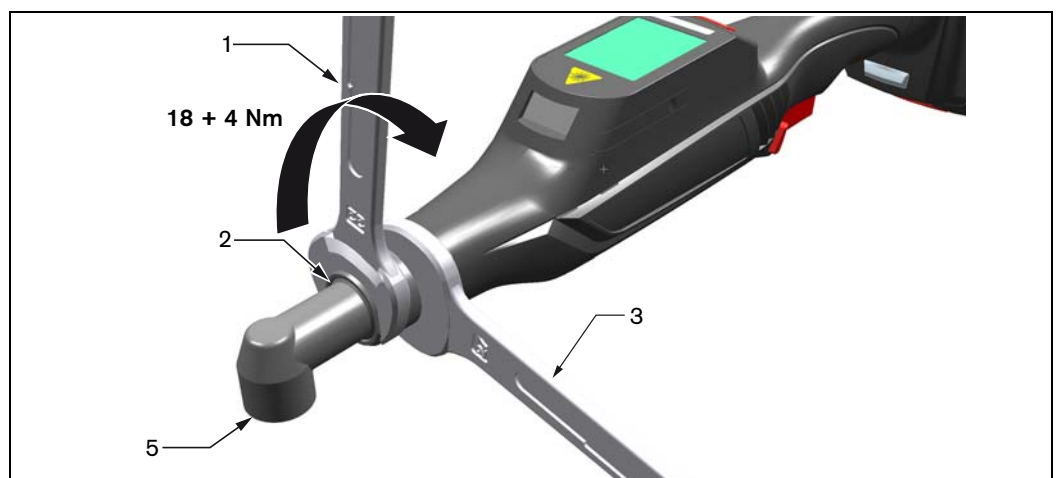

Fig. 4-2: Adjusting the angle head and tightening the lock nut
3. Adjust angle head 5 in increments of 45° until it reaches the desired position and use open-end wrench 1 to tighten the union nut at wrench face 2 again. Use open-end wrench 3 at the angle head flange to hold it in place (see figure 4-2).